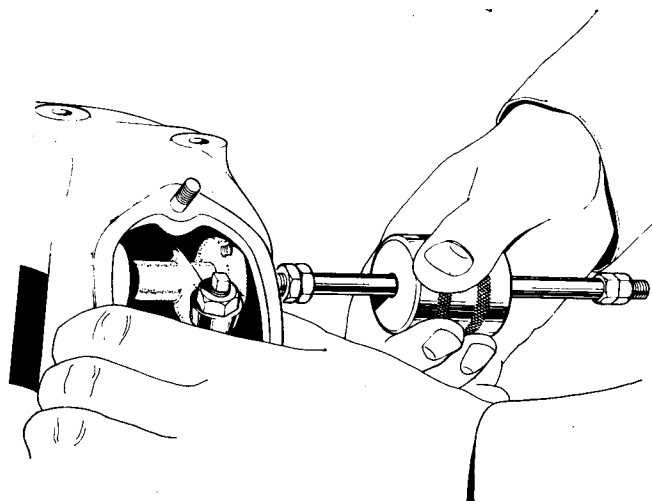

Fig. C5 Extracting rocker spindles using slide hammer 064298
- 3 Use service tool 064298 to extract the rocker spindles as shown in Fig. C5. Heat the cylinder head gently to ease removal and avoid damage to head or spindles. Ensure the shaft of the slide hammer is threaded well into the rocker spindles then slide the weight back against the nut sharply several times and the spindle will be drawn out.